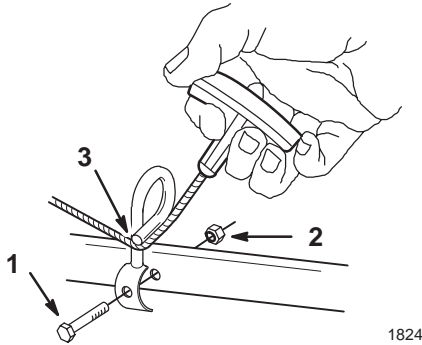

Figure 3
- Secure starter rope guide to the lower handle with a bolt and locknut (Fig. 3).
- Pull the starter rope through the guide (Fig. 3).